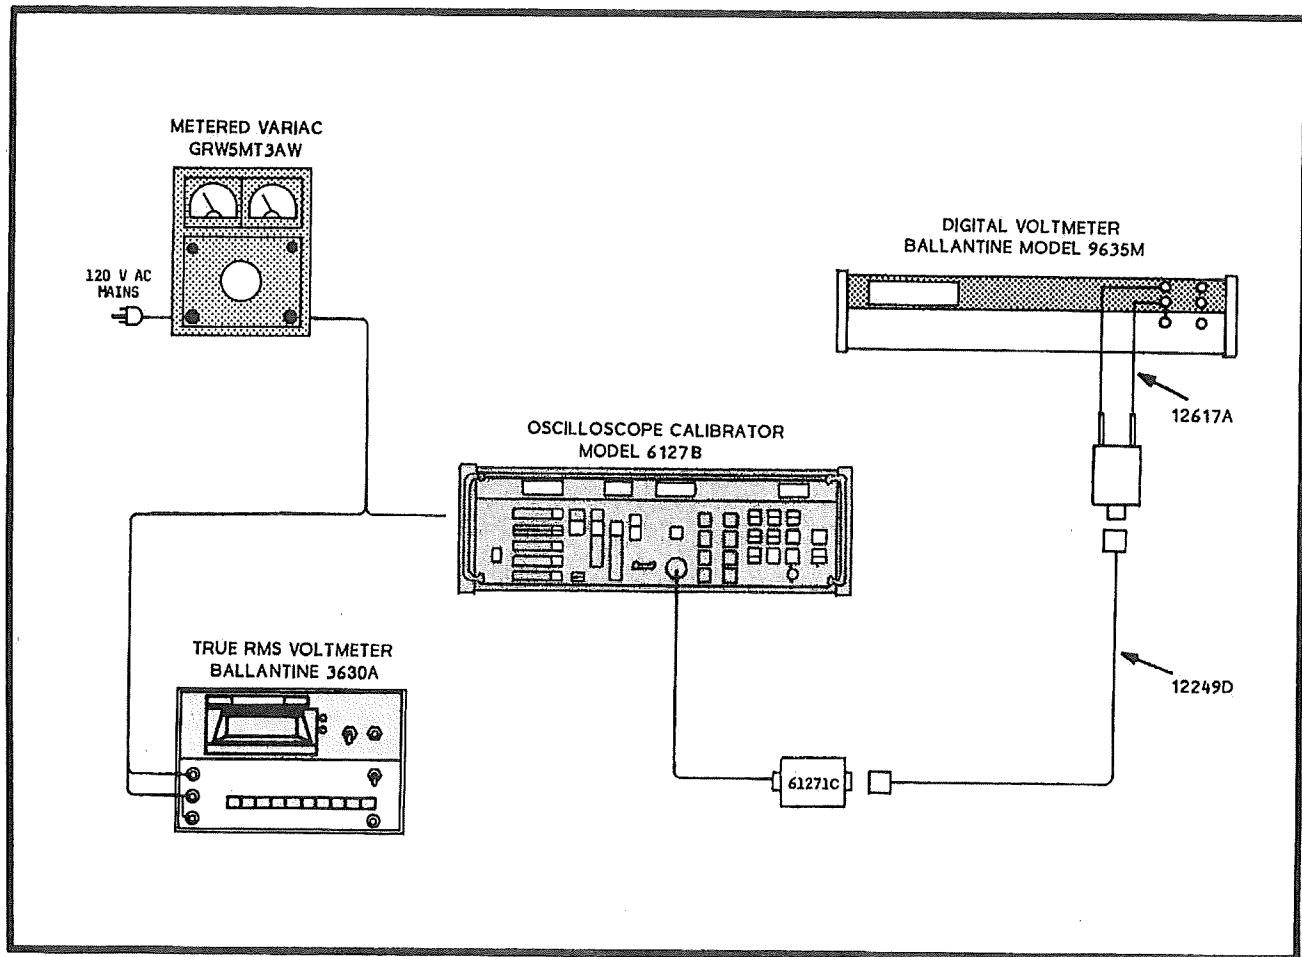

Figure 5-11. Volts Deviation Calibration, Test Set Up
d. Connect the digital voltmeter (Ballantine Model 9635M or equivalent) to the 61271C OUTPUT BNC as shown in figure 5-11.